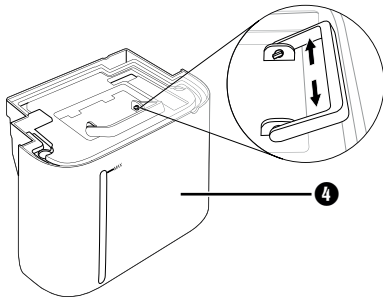

Fig. 5
- ◆ To clean the inside of the water tank **4**, remove the cover. To do this, tilt the handle forward until the pins on the handle are aligned with the grooves on the water tank **4**. You can now remove the grip by pushing it out of the groove on both sides (see figure 5).